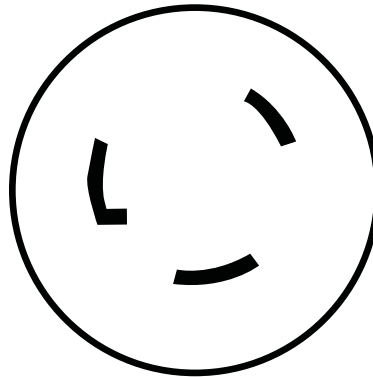

Figure 2
2. Connect the fan heater to the proper electrical power. See Grounding instructions (Page 8 and Figure 2)
- This heater is for use on 240 (or 208) volts. The cord has a plug as shown in figure 2 (below). No adapter is available for this blade configuration, and none should be used. The type outlet is a 240 (or 208) volt grounding outlet. When properly installed, it provides a ground connection through the cord to the heater to protect the operator from electric shock.